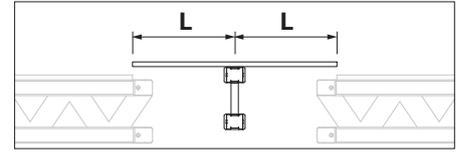

Fig. A4.01.2
For larger compensations with plywood sheeting (14) which rests on both tables and is additionally supported by a GT 24 girder positioned in the centre. (Fig. A4.01.2)